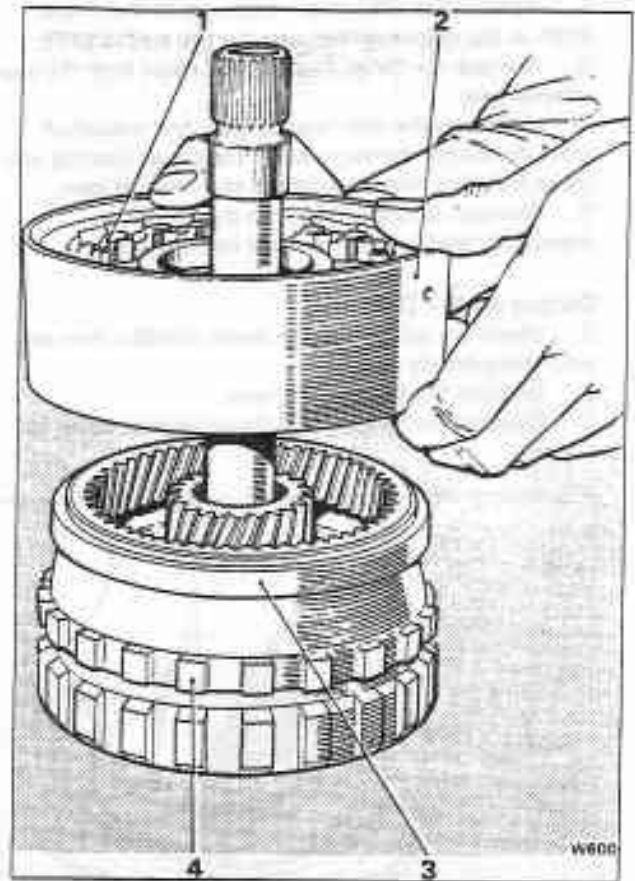

Fig. T20-2 Removing the reaction carrier assembly
19. Remove the reaction carrier and roller clutch assembly from the output carrier (see fig. T20-2). Remove the roller clutch assembly and spacer ring from the reaction carrier.